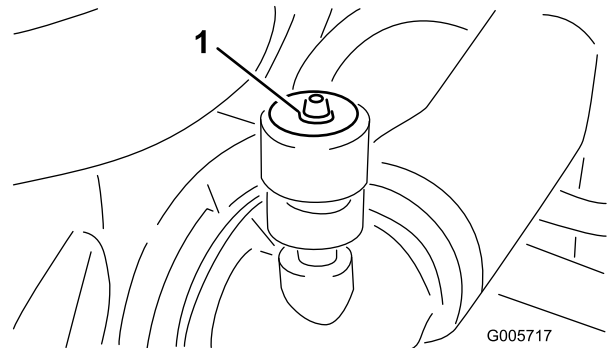

Figure 43
- Service the air cleaner filters when air cleaner indicator (Figure 43) shows red or every 400 hours (more frequently in extreme dusty or dirty conditions). Do not over service air filter.
6. Reset indicator (Figure 43) if showing red.